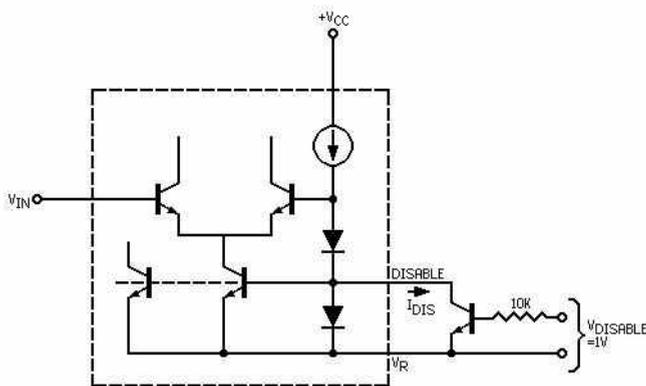

Fig. 8 Use of the disable node.
This node can be used, as shown in Fig. 8, to turn all the switches in the unit off independent of logic inputs. Normally, the node floats freely at an internal diode drop ( $\approx 0.7V$ ) above  $V_R$ . When the external transistor in Fig. 8 is saturated, the node is pulled very close to  $V_R$  and the unit is disabled. Typically, the current from the node will be less than 1 mA.
**Note 5:** All switches in the device are turned "OFF" by saturating a transistor at the disable diode as shown in Fig. 8. The delay times will be approximately equal to the  $t_{ON}$  or  $t_{OFF}$  plus the delay introduced by the external transistor.